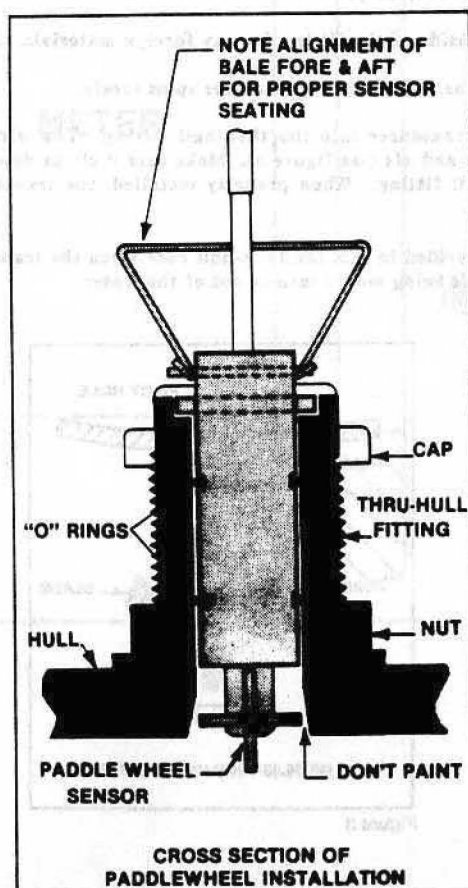

Figure 6
10. Insert the transducer into the thru-hull fitting. The wire handle should be aligned fore and aft (see figure 6). Make sure it clicks down into the notch on the thru-hull fitting. When properly installed, the transducer body will not rotate.